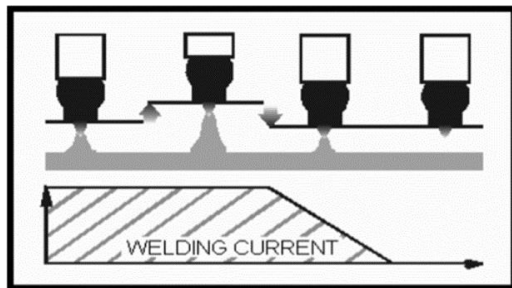

Fig. 9 Shows how you can lift the torch from the work piece to start the slope down process and end welding.
- 1) With the slope down function turned on, you can end your weld by regulating the distance between the arc and the work piece as shown in **Fig. 9**.